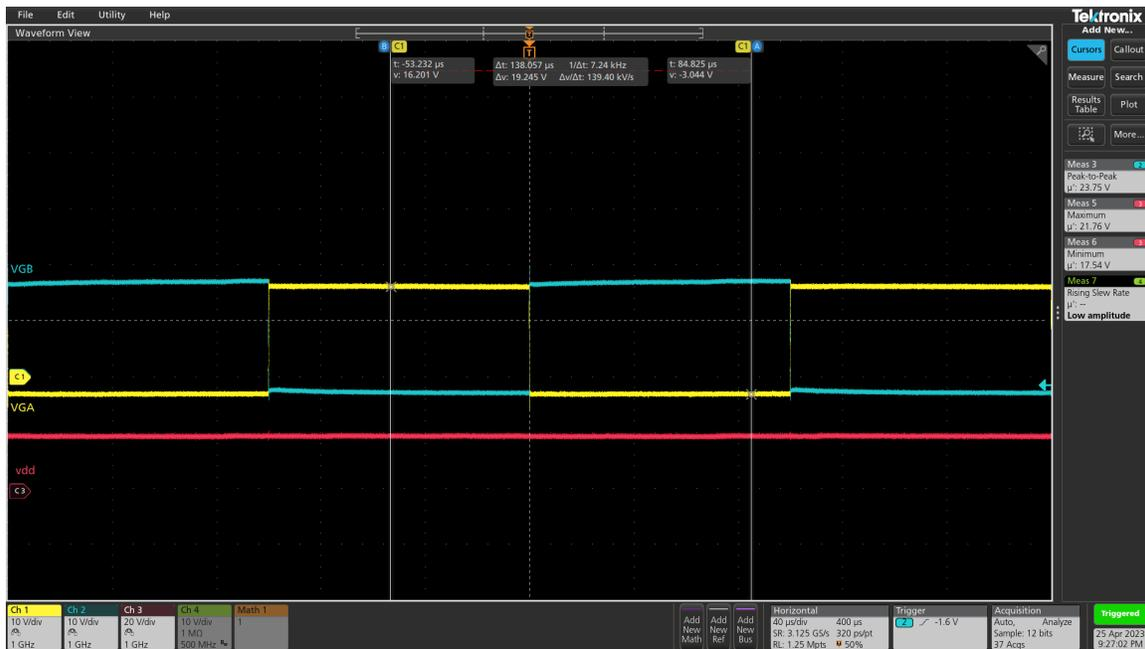

Figure 3-2. Power-up Test: Switching at 5 kHz
5. Probing VGA-VSSA and VGB-VSSB shows a PWM output signal from the gate driver going up to +16V when HIGH and -3V when LOW as shown in Figure 3-2.